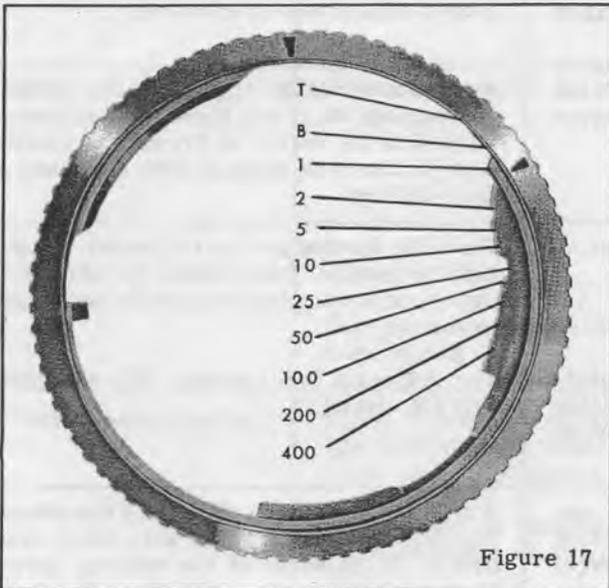
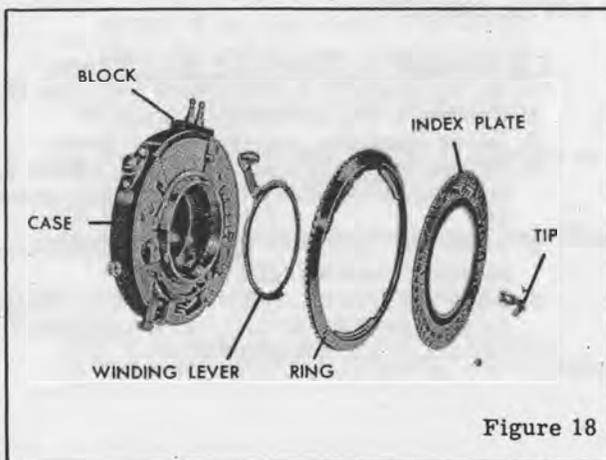
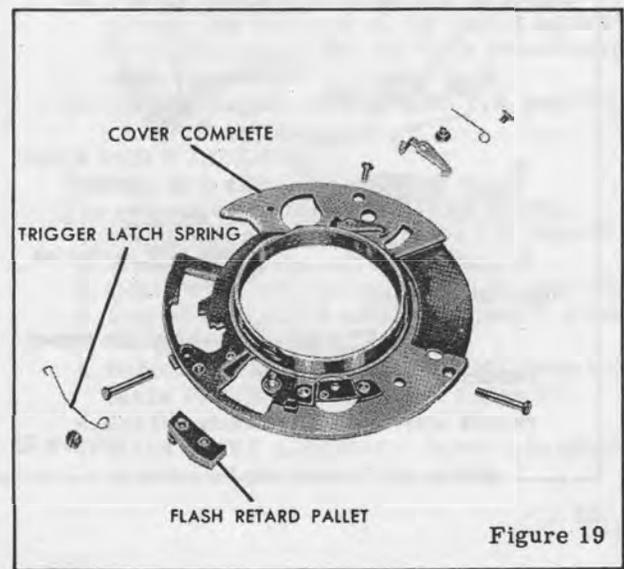
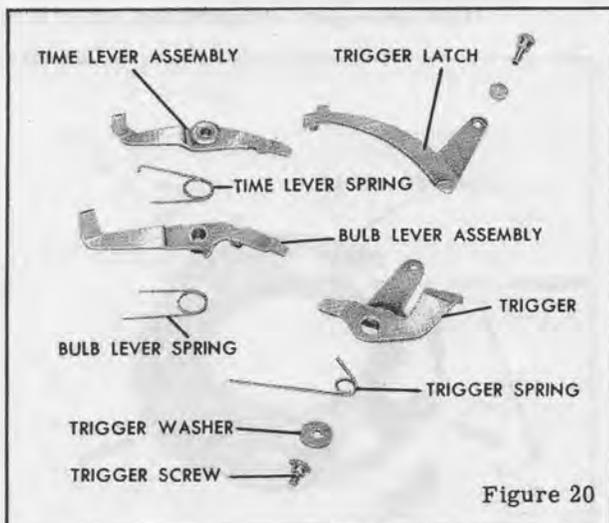

Figure 17
Figure 18
Figure 19
Figure 20
Excessive retard sector travel.	Swedge the speed control RING, figure 18, at the area controlling the slow speed (see figure 17).
The winding lever may be binding around the central opening of the cover or on the speed INDEX PLATE, figure 18.	Try lubricant or replace the WINDING LEVER, figure 18.
2. Diaphragm pointer TIP, figure 18.
1. Speed control ring, with shutter in tripped position. Be sure the projecting lug on the BULB LEVER ASSEMBLY, figure 20, the studs on the retarding SECTOR WITH STUD, figure 6, and the PALLET BRACKET with stud assembly are resting against the inside edge of the speed control ring and are not underneath the ring.
2. WINDING LEVER, figure 18.
**CAUTION:** Do not touch the TRIGGER LATCH, figure 20, as it may release the winding gear spring tension.
Trip the shutter and lightly hold the winding lever down around the central collar on the cover. As the shutter is tripped, the end of the latch should fall into the slot on the cover. If it does not, add more tension on the TRIGGER LATCH SPRING, figure 19. Check for a bind between the trigger latch and the TRIGGER, figure 20, at the point of attachment. The winding lever should contact the trigger latch; push the latch out of the slot in the cover and open the shutter blades. After the shutter has been tripped, the latch should return to a position where it is resting on the ledge just above the small slot in the cover.
3. TRIGGER LATCH SPRING, figure 19.
4. Lift up the loose end of the TRIGGER LATCH, figure 20, sufficiently to clear the COVER COMPLETE, figure 19. Move the end of the latch until it is clear of the CASE, figure 18.
6. FLASH RETARD PALLET assembly, figure 19.
5. TRIGGER SCREW, figure 20, TRIGGER SPRING, and TRIGGER WASHER.